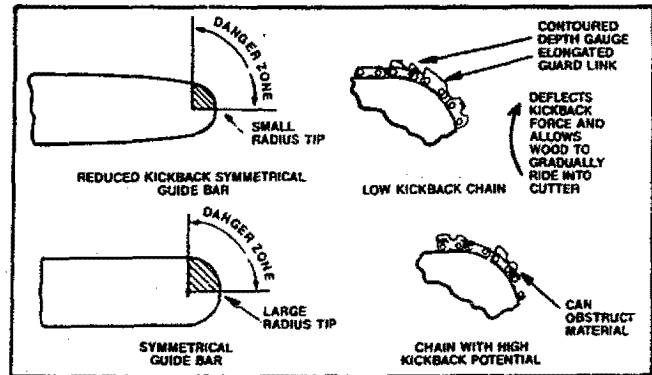

Figure 5
- **Reduced-Kickback Guide Bar**, designed with a small radius tip which reduces the size of the kickback danger zone on the bar tip. Figure 5. A Reduced-Kickback Guide Bar is one which has been demonstrated to significantly reduce the number and seriousness of kickbacks when tested in accordance with the safety requirements for gasoline powered chain saws as set by the American National Standards Institute, Inc., Standard B175.1-1985.
- **Low-Kickback Chain**, designed with a contoured depth gauge and guard link which deflect the kickback force and allow wood to gradually ride into the cutter. Figure 5. Low-Kickback Saw Chain is chain which has met the kickback performance requirements of ANSI B175.1 when tested on a representative sample of chain saws below 3.8 cubic inch displacement specified in ANSI B175.1-1985. (American National Standard for Power Tools - Gasoline Powered Chain Saws - Safety Requirements).